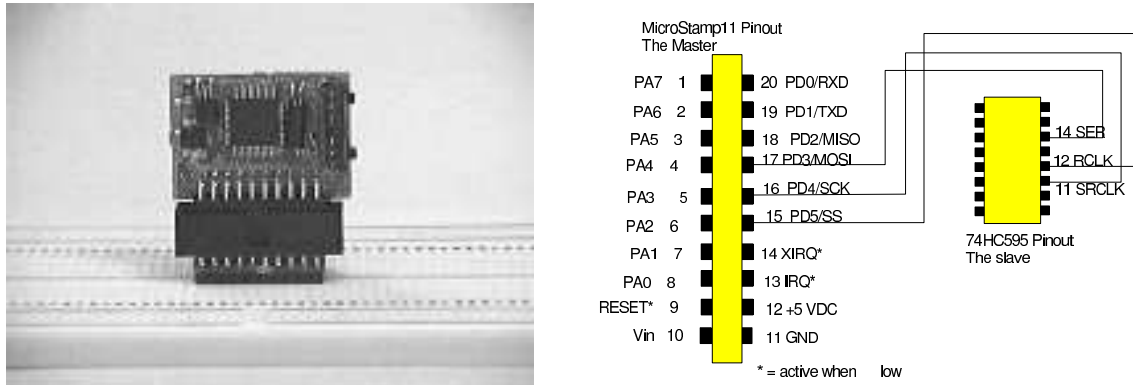

FIGURE 2. MicroStamp11 Module and its pin out
3.2. What is the MicroStamp11? The MicroStamp11 is a micro-controller module. Physically, the MicroStamp11 module is a small 1 by 2 inch printed circuit board (PCB) that is built around the Motorola 68HC11 micro-controller integrated circuit (IC). In addition to containing the micro-controller chip, the module holds a modest amount of circuitry devoted to power and memory management. The lefthand picture in figure 2 depicts a MicroStamp11 that has been plugged into a solderless breadboard. In the center of the module's front side is a large square IC. That IC is the 68HC11 micro-processor, the heart of the module. In addition to this large IC, however, you'll also see a number of smaller IC's.
program will only be stored in EEPROM, however, if the module is in *boot mode*. Once a program has been stored in memory, the application will begin running as soon as you switch the module into *run-mode*. You manually switch between boot and run mode using the switches shown in figure 2.
The MicroStamp11 module accesses the outside world through external pins. The righthand drawing in figure 2 shows the pin out for the module. This is a top down view of the device's pin out. Each pin on the device is labelled with one or two names. The precise function of these pins will be explained as needed in the labs.
of the MicroStamp11 directly to the pins on the 20-pin socket, so that the top-down pin out shown in figure 2 corresponds to the top down view of the socket.